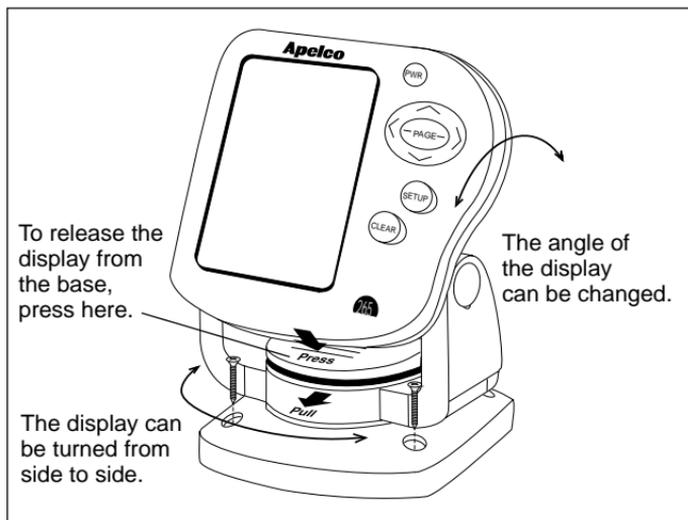

Fig. 2-8
You may mount the display unit on any flat surface using the bracket supplied. See Fig. 2-8. (There is also an optional kit which allows you to flush-mount the display in a flat panel or dashboard). Follow these instructions if you are using the standard mounting bracket:
2. Remove the display unit from the bracket by pressing on the large button in the center of the bracket. See Fig. 2-8.